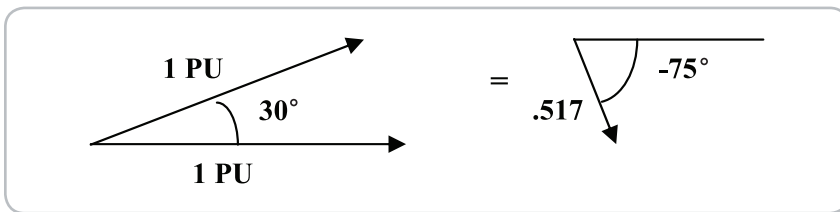

Figure 4: Secondary voltage difference between delta and wye
Paralleling delta-delta to delta-wye transformers **should never be attempted**. This is because secondary line-ground voltages (assuming balanced voltages) are shifted by  $30^\circ$  in the wye transformer compared to the delta. This causes extremely high circulating currents in the transformers. Using example 5, equation (6), and Figure 4 vectors below. This voltage difference calculates to  $.517$  PU at  $-75^\circ$ . The percent circulating current calculates to  $\%I_c = 51.7 \times 100/11.5 = 449.5$ . These circulating currents certainly would overheat the transformers.